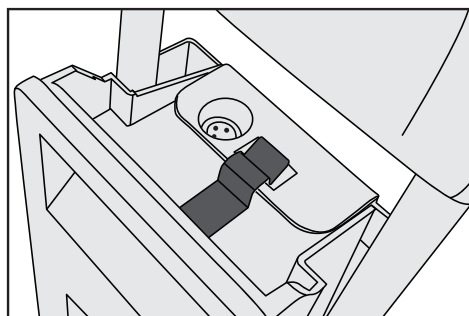

Figure 2
2. Tilt battery towards tiller until latch clicks (Figure 2).